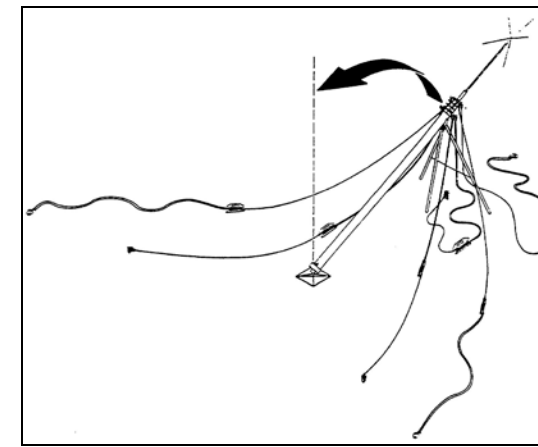

Figure 9
16. Raise the mast to a vertical position and verify that the gearbox is securely seated on the base plate. See Fig. 9.